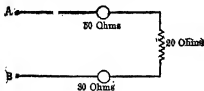

FIG. 34. Two lamps and resistor in series.
**Example 3.** In Fig. 34 a lamp of 50 ohms, a resistance of 20 ohms, and another lamp of 30 ohms are connected in series across the points A and B. The 30-ohm lamp has a pressure of 120 volts across it.